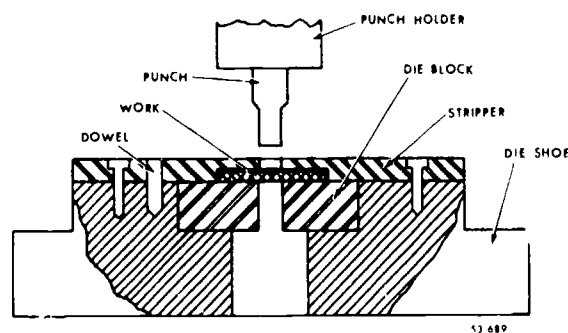

Figure 1-35 Channel-type stripper
**Strippers and Pressure Pads.** What *are* the functions of strippers and pressure pads? Well, strippers are used to remove the stock from the punch after a blanking or piercing operation. A channel-type stripper is often used. An example is shown in figure 1-35. In fact, a pressure pad is used frequently as a stripper, thus serving a dual purpose. The pressure pad is mounted on the punch holder and is held down by stiff springs. As the punch ram descends, the pressure pad holds the work in place while the punch passes into the die. On the upstroke, the pressure pad is held down momentarily, acting as a stripper. This action wipes the stock from the punch. Figure 1-35 illustrates this action. In simple forming operations, pressure pads are not necessary for stripper purposes. Still, they are used extensively to prevent edgewise movement of the blank after it has been moved from the locating rest by preliminary bending movements. While a blank is being bent or formed, it has a tendency to move sideways, because strip steel has a tendency to resist bending more in certain areas than in others.
tolerances, place a second strip below the original stripper to provide a groove through which the stock is passed. The width of this groove should be at least 0.005 inch larger than the width of the stock, and the height of the groove should be  $1\frac{1}{2}$  times the thickness of the stock. Strippers for large die sets can be made of one-piece construction, and the groove can be machined out, as shown in figure 1-35. All strippers must be aligned with dowels to insure accurate alignment on the die holder.